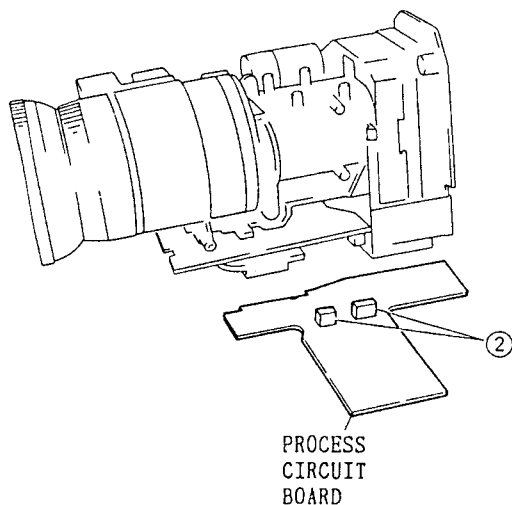

Fig. 2-23
2. Disconnect two (2) connectors (CN006, CN302). (See Fig. 2-23)